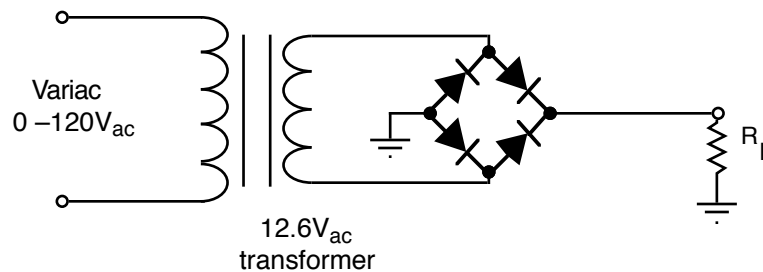

Fig 2.2
a) Construct the full-wave bridge rectifier circuit of Fig 2.2 using four 1N4001 rectifier diodes. Explain the output wave form. Remove one of the diodes and look at the symptoms.